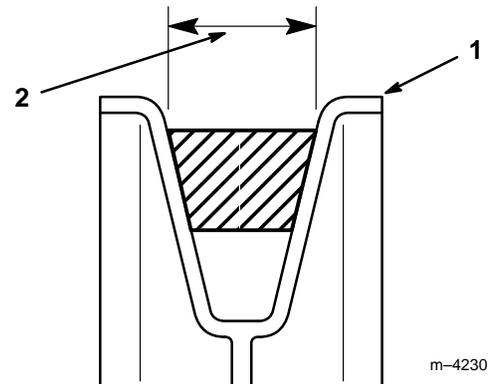

Figure 11
7. Make certain that the wide side of the PTO drive belt is toward the outside diameter of **all (four) pulleys (Fig. 11)**.